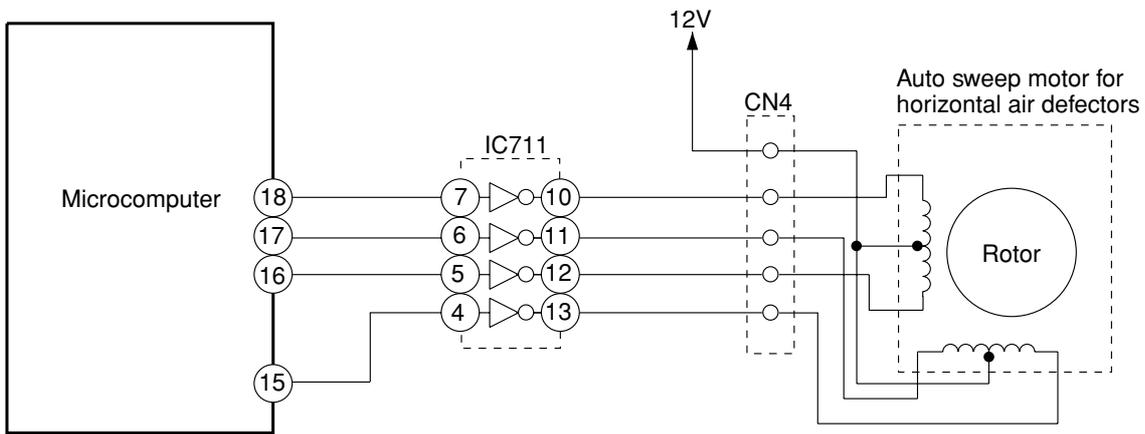
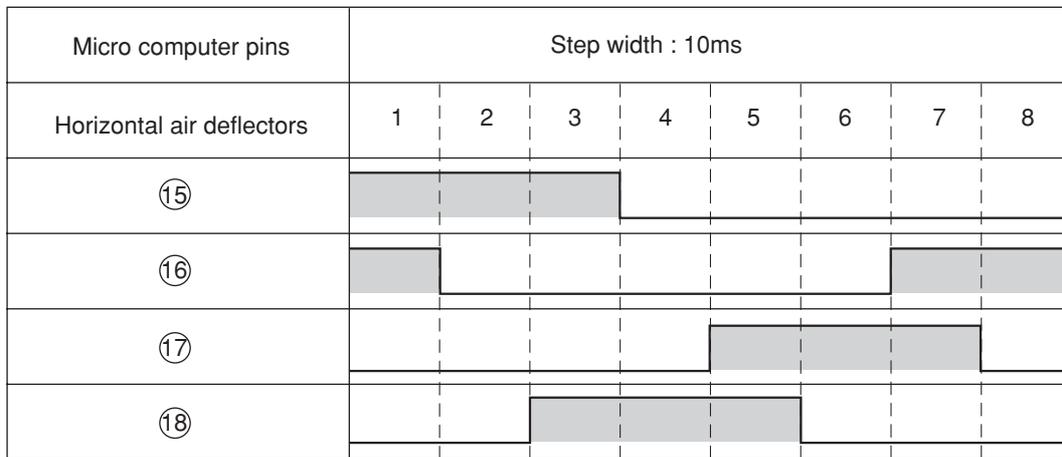

Fig.4-1
Fig.4-2 Microcomputer Output Signals
Fig. 4-1 shows the Auto sweep motor drive circuit; the signals shown in Fig.4-2 are output from pin ⑮ - ⑱ of microcomputer.
As the microcomputer's outputs change as shown in Fig.4-2, the coils of the auto sweep motor is excite to turn the rotor. Table 4-1 shows the rotation angle of horizontal air deflectors.